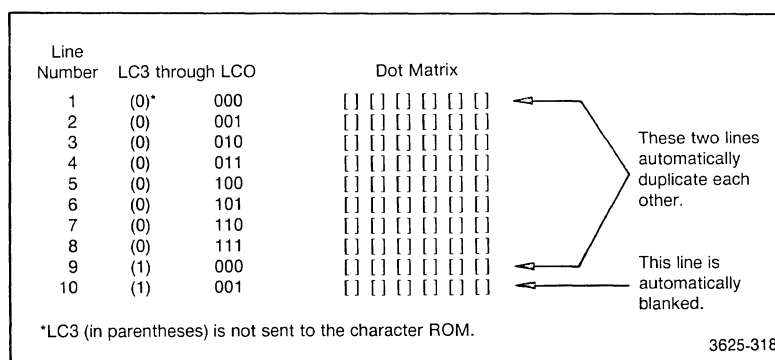

Figure 4-22. Display character format.
generator. All display characters consist of dots filling in a rectangular matrix (six dots across and ten dots high) as shown in Figure 4-22.
The tenth line of all characters is automatically blanked because AND gate U105C activates the VSPB(H) signal. See Table 4-11 and Figure 4-22 for more details. The first and ninth lines in a character automatically duplicate each other because they both write to low order address 000, so these lines are usually programmed blank in the character ROM.